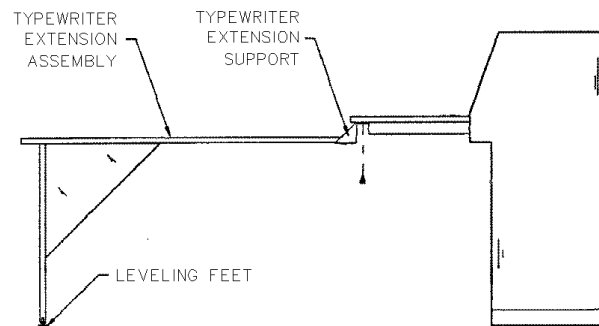

Figure 3-15 TYPEWRITER EXTENSION ASSEMBLY
3. A correctly mounted Formica writing surface end trim is shown in Fig. 3-15. Notice that the bottom of the end trim aligns perfectly with the console end kit metal.
Refer to Figure 3-15. The Typewriter Extension Assembly consists of a typewriter extension, a typewriter extension support, two (2) triangle braces and hardware. It is packed flat for shipping and must be assembled in the field.